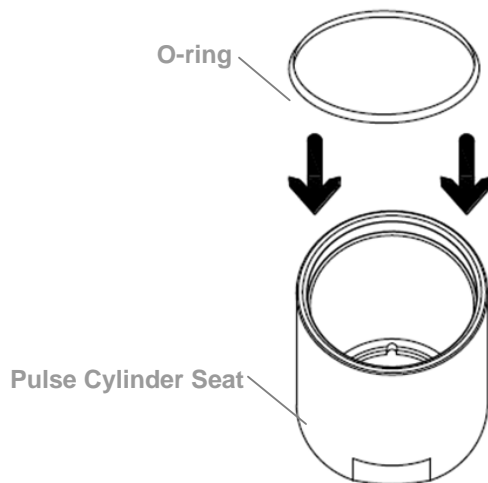
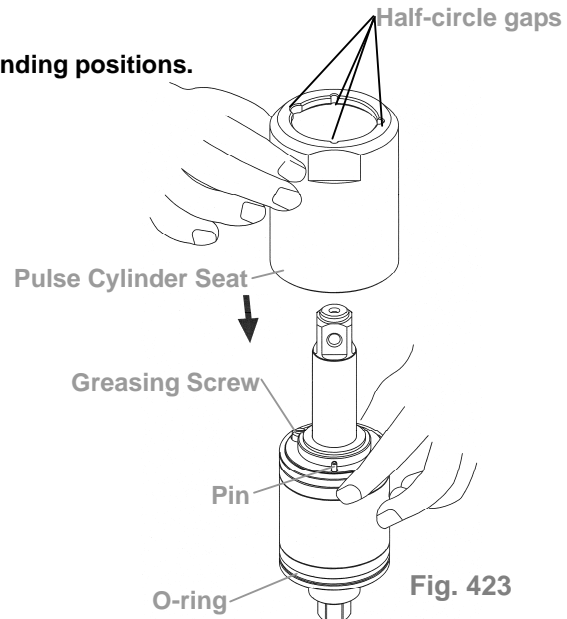

Fig. 422
Fig. 423
(4) Pulse Cylinder Seat and Lock Nut of Pulse Cylinder Assembly
- ① Place the o-ring inside the bottom of the pulse cylinder seat, then combine the pulse cylinder seat with the assembled pulse cylinder unit. (Fig. 422, Fig. 423)